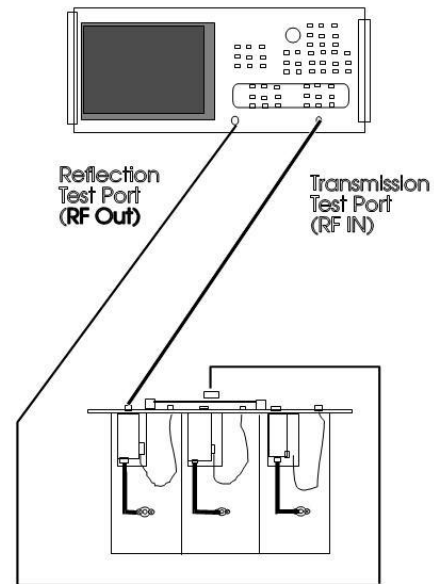

Figure 5 - System test with antenna harness and isolator installed
2. Connect the combiner to the test setup as shown in Figure 5.